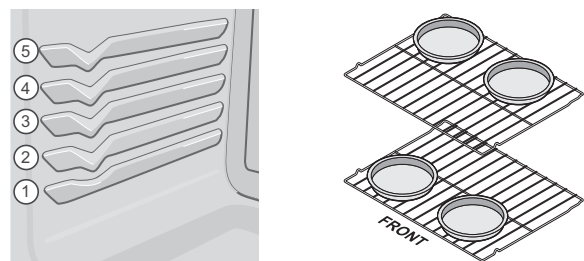

Figure 26: Rack positions and pan spacing recommendations
- For best results when baking cakes using 2 oven racks, place racks in positions 2 and 4. When baking using 2 oven racks, position bakeware as shown in Figure 26. Allow at least 2 inches (5 cm) of space between bakeware for proper air circulation.